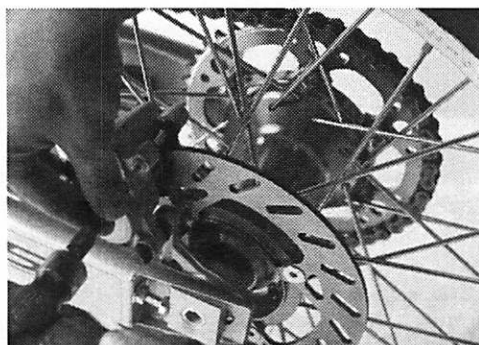

Figure 6.5
3. Push the brake pad pin toward the wheel using a drift punch and small hammer. Pull the pin from the caliper. (Figure 6.5)